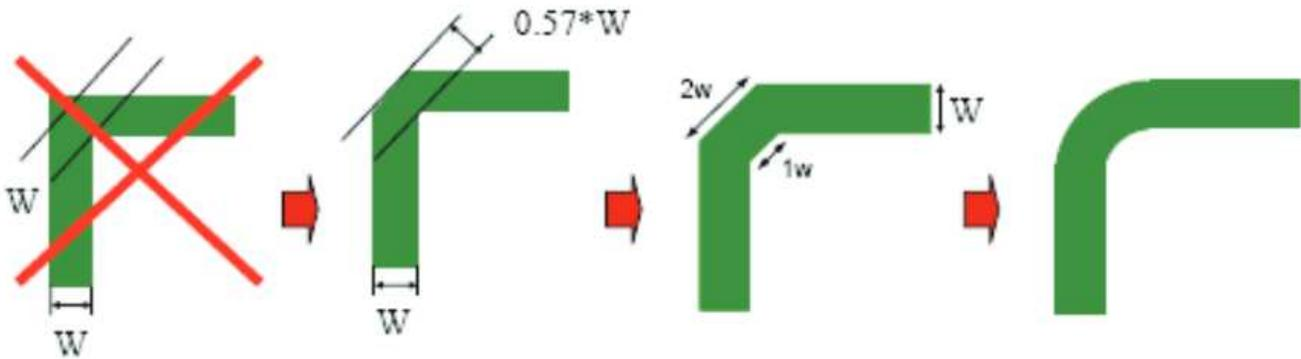

Figure 23. Poor and Good Right-Angle Bends
- Avoid right-angle bends in a trace and try to route them at least with two 45° corners. To minimize any impedance change, the best routing would be a round bend (see Figure 23).